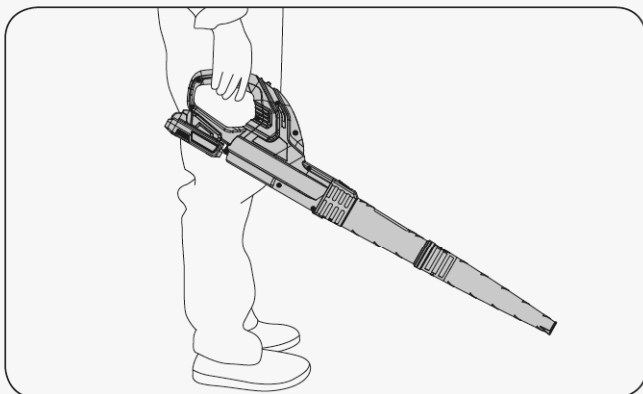

Figure 25
2. Hold Blower in proper position- one hand on the main handle, with the Tube several inches off the ground. (See **Figure 25**)